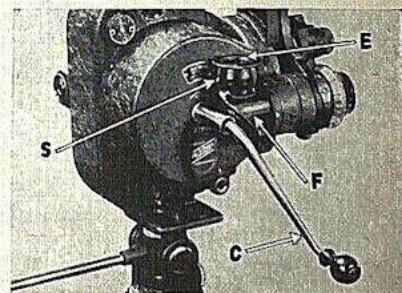

Figure 22
- (2) A prismatic focusing magnifier which permits visual focusing and alignment of the object being photographed (Figure 22).